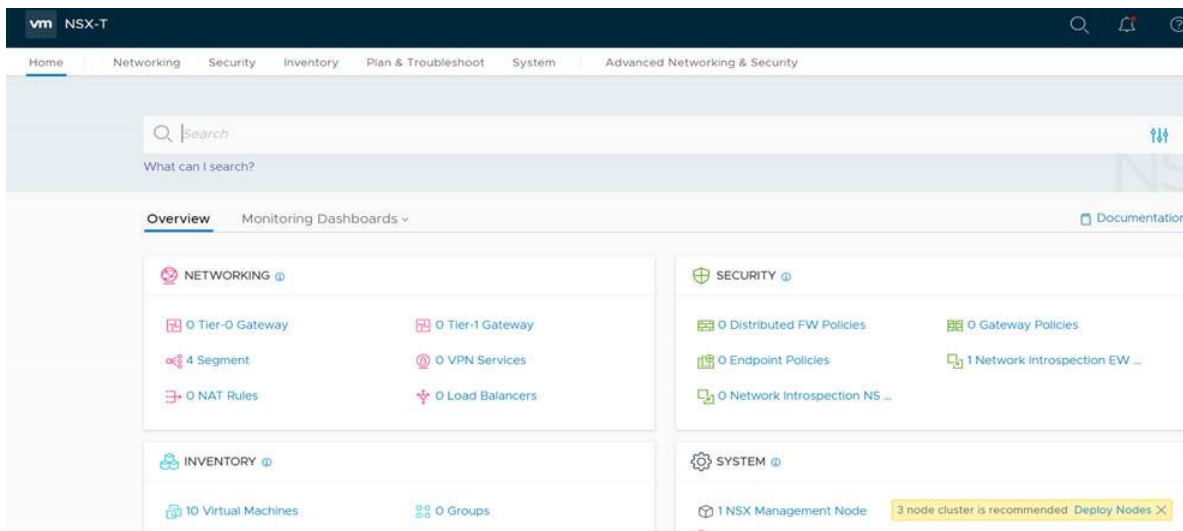

Figure D-14. NSX-T Home Window
1. Log into VMware NSX-T and navigate to the **Home** page (Figure D-14).
- The Add New Logical Switch window appears. (Figure D-14).